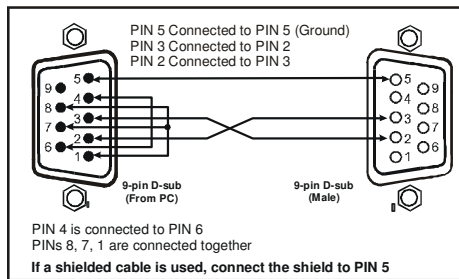

Figure 4: Connecting a PC without using a Null-modem Adapter
- Connect the RS-232 9-pin D-sub port on your PC to the RS-232 9-pin D-sub rear panel port on the Master **VS-808YC** unit, as Figure 4 illustrates